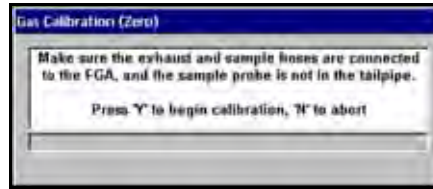

Figure 4-2 Sample startup calibration instruction
3. Follow the on-screen instruction to continue (Figure 4-2).